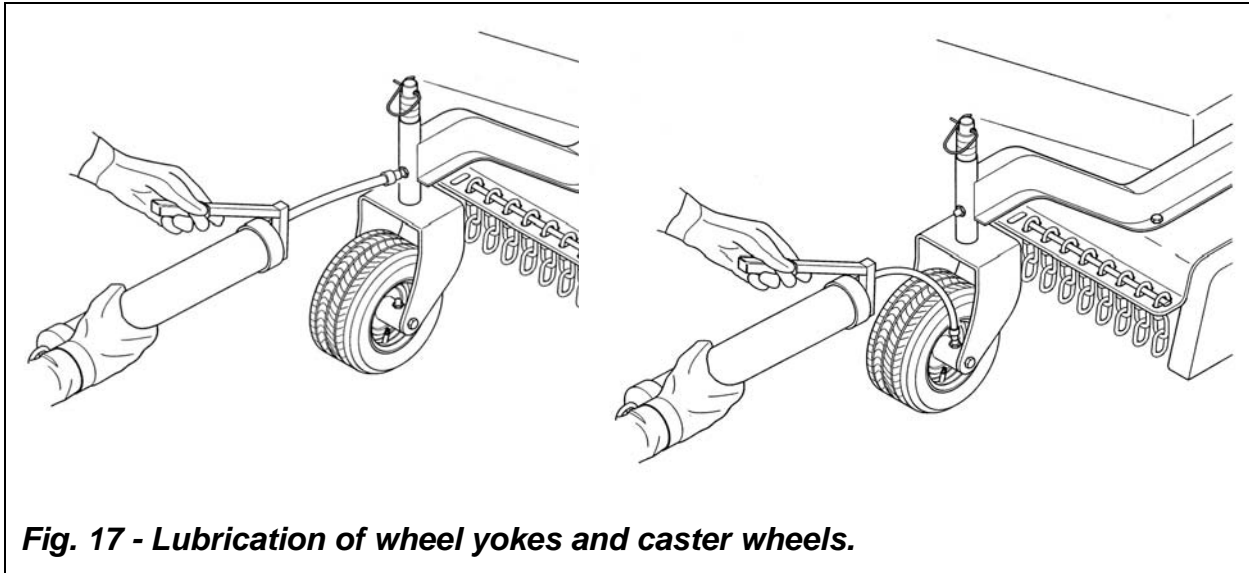

Fig. 17 - Lubrication of wheel yokes and caster wheels.
1. **Lubricate drivelines, lubricate caster wheels, wheel yokes and frame pivot points;** apply two or three shots of grease to the driveline cross and bearings and the telescoping shafts; apply the same amount to the wheel arm grease fittings, the wheel grease fittings (**see fig. 17**) and the frame grease fittings (**see fig. 16, #1-10 for lubrication points**). See the driveline manufacturer operator's manual for further information on the drivelines.